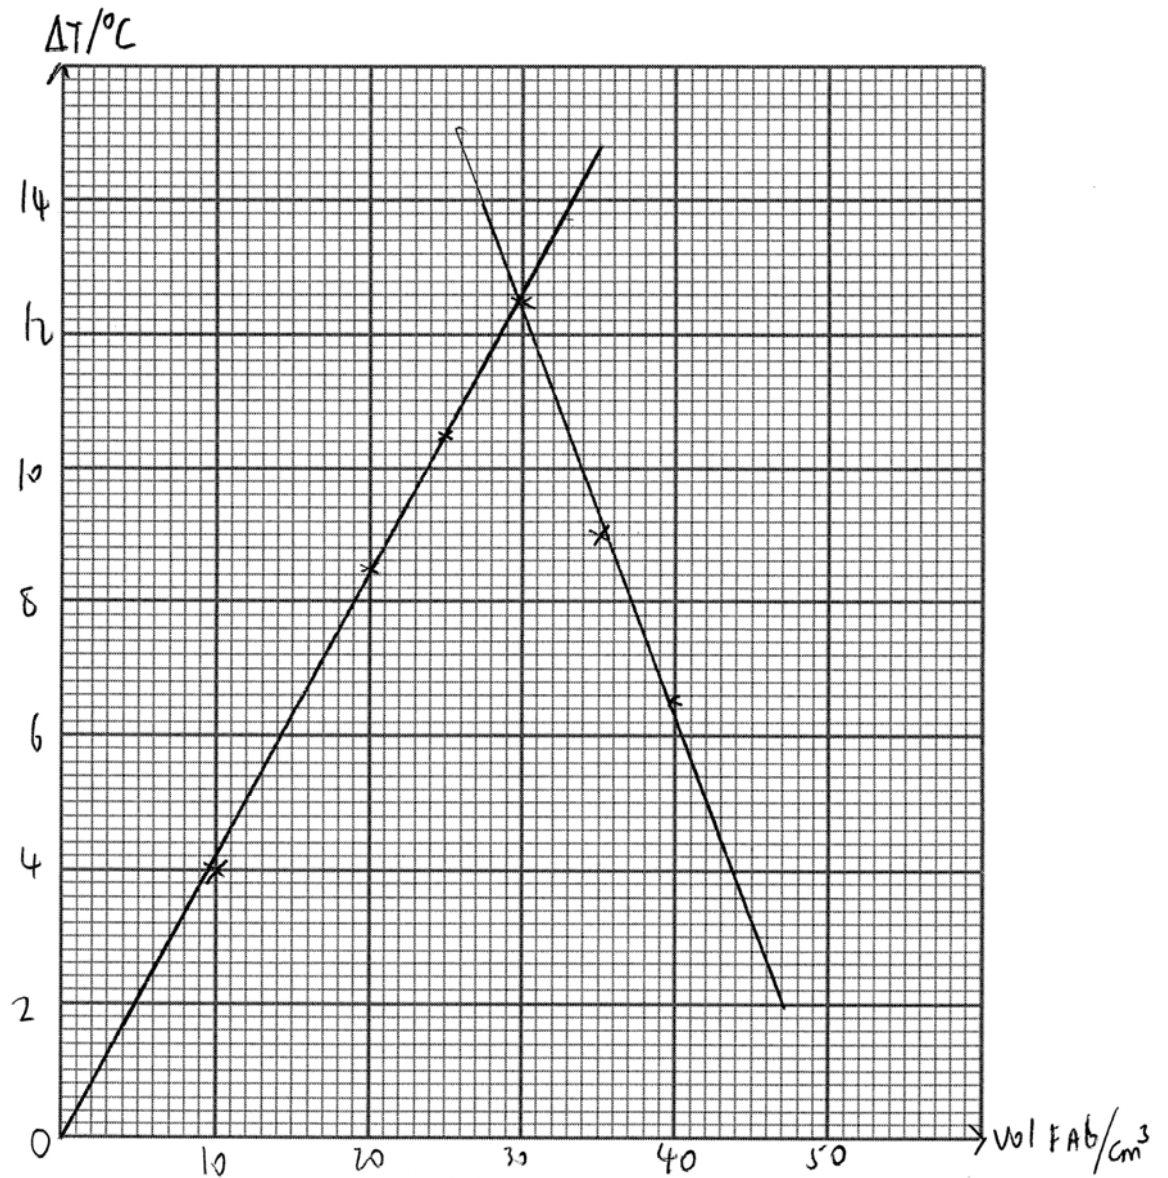

Fig. 2.1
- (ii) Plot a graph of ΔT (y-axis) against volume of **FA 6** used (x-axis) using the data you have obtained above in **a(i)** on the grid in Fig. 2.1.